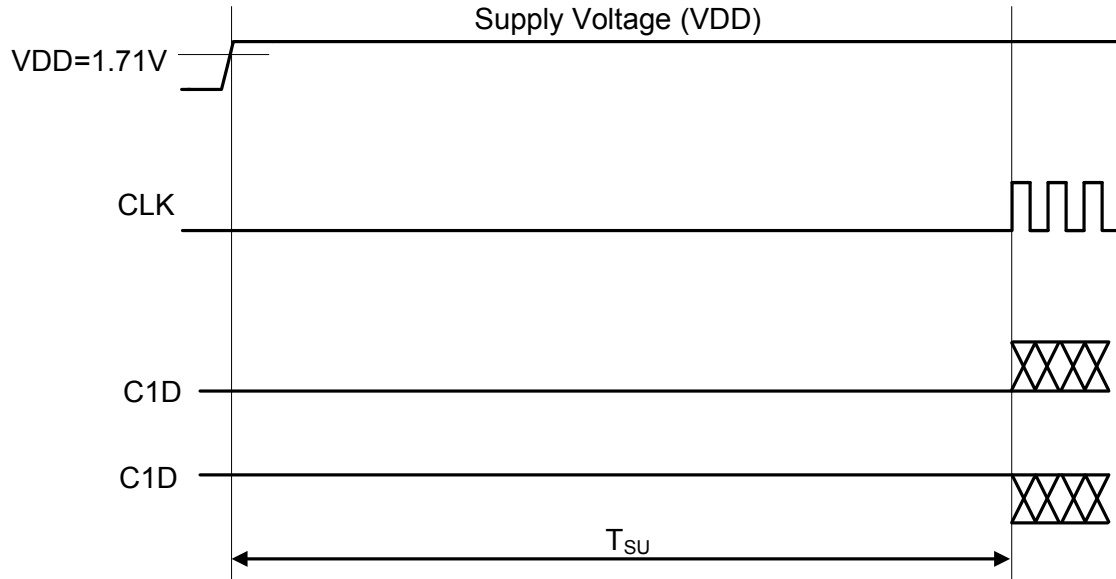

Figure 2. Power-On Timing
1. Refer to Figures 2, 3, and 7 for timing diagrams and additional information.
***Note:** Refer to Figures 2, 3, and 7 for timing diagrams and additional information.